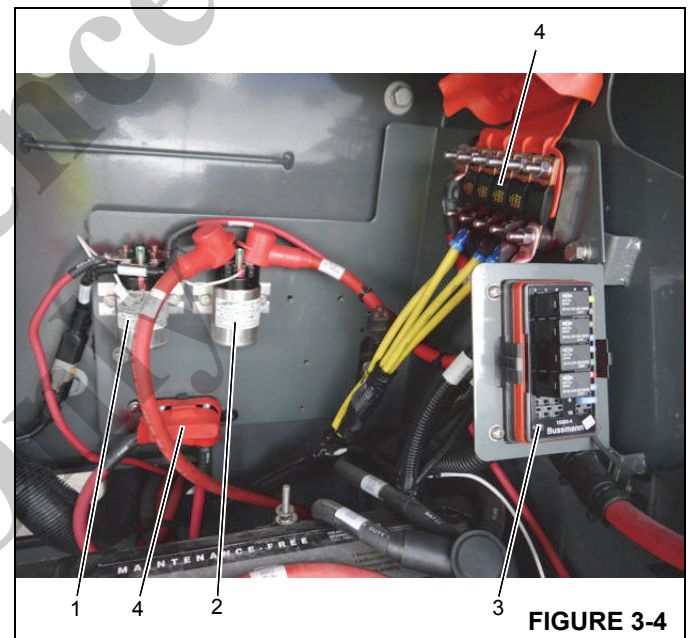

FIGURE 3-4
Fuses are located behind the seat in the cab (1) (Figure 3-3). In the battery box fuse panel (3) (Figure 3-4) and in the battery box (4).
| F1   | Superstructure Module PCB Power | 20   | (Figure 3-4) |
| F2   | CraneStar Power                 | 5    | (Figure 3-4) |
| F3   | Diagnostic Tool Power           | 5    | (Figure 3-4) |
| F4   | Carrier Module Battery Power    | 15   | (Figure 3-4) |
| F5   | Carrier Module Battery Power    | 15   | (Figure 3-4) |
| F6   | Engine ECM Power                | 30   | (Figure 3-4) |
| F7   | Relay Power                     | 10   | (Figure 3-4) |
| F8   | Reverse Power                   | 15   | (Figure 3-4) |
| F9   | Carrier Module PCB Power        | 15   | (Figure 3-4) |
| KC1  | Headlight Relay                 |      | (Figure 3-4) |
| KC2  | Starter Lockout Relay           |      | (Figure 3-4) |
| KC3  | Reverse Relay                   |      | (Figure 3-4) |
| KC4  | Ignition On Relay               |      | (Figure 3-4) |
| F51  | Alternator        | 100  | (Figure 3-4) |
| F52  | Swivel            | 100  | (Figure 3-4) |
| F53  | Swivel            | 100  | (Figure 3-4) |
| F54  | Swivel            | 100  | (Figure 3-4) |
| F55  | Main Power        | 125  | (Figure 3-4) |
| F56  | Grid Heater Power | 100  | (Figure 3-4) |
The relays are located at the back of the battery box (Figure 3-4): relay K-301 start relay (1) and relay K-302 grid heater relay (2).